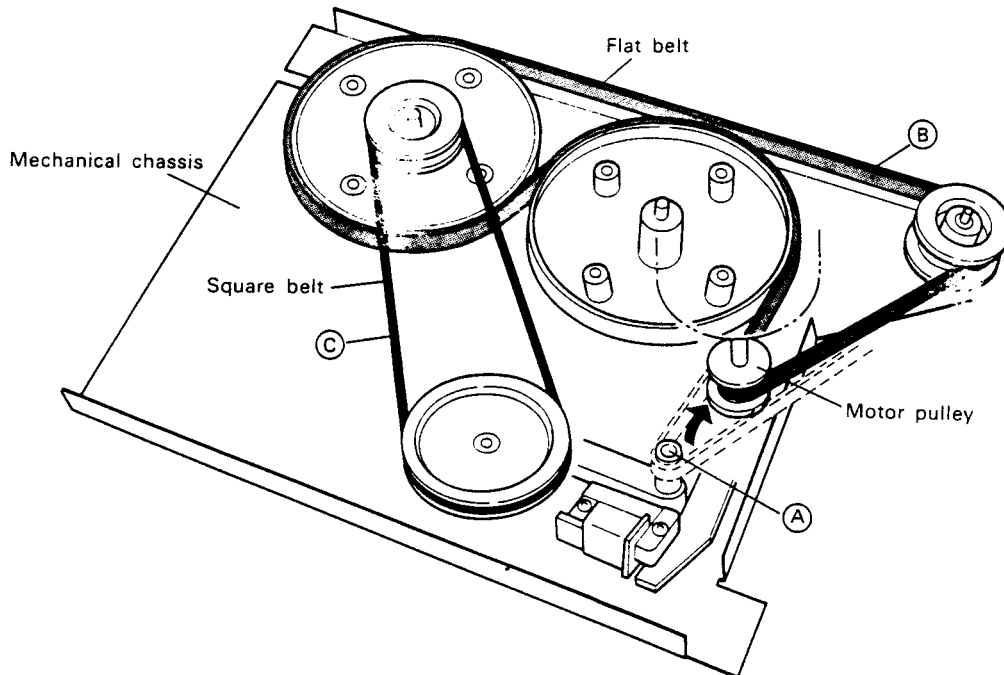

Fig. 13-4 Appliance of belt
1. Apply the flat belt as shown in the broken lines through ㉞ section (belt temporary holding shaft) in the Fig13-4.
2. Apply the square belt as shown ㉟ in Fig13-4.